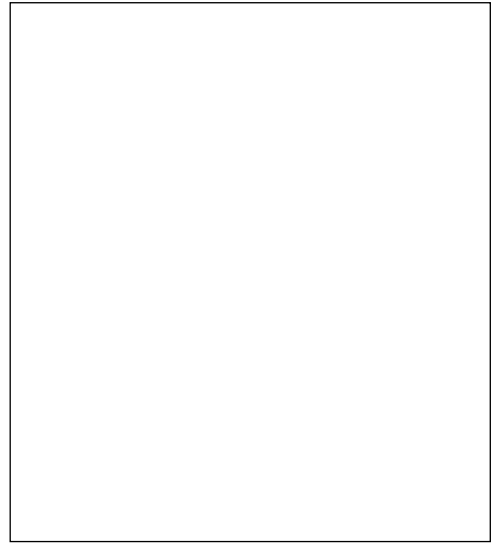

Figure 2
Step 2 Take the stiffened end of the RSL lanyard and insert it in the pocket on the INSIDE UPPER edge of the 3-Ring cover. Make sure the loose end of the lanyard with the snap shackle faces the outside. *Figure 2*